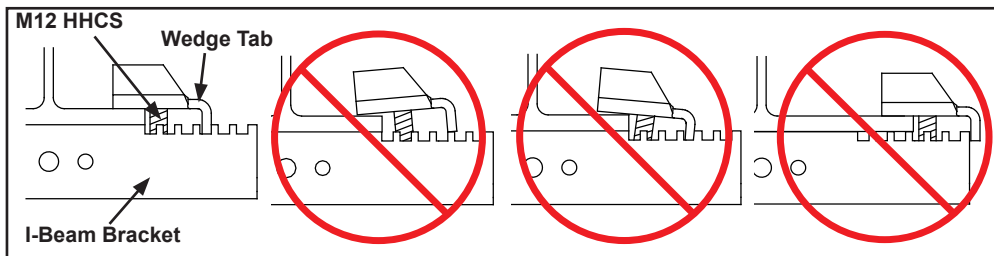

Figure 3-56A
Step 5. Slide wedge tabs in toward web of beam until wedges contact I-Beam flange sides. See Figure 3-56A below.